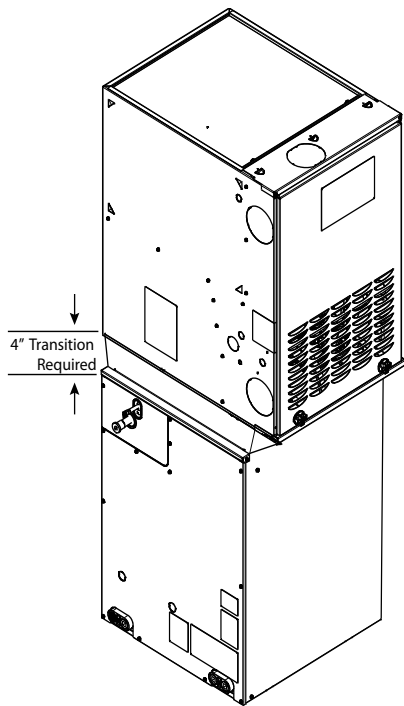

**Fig. 3 – Adapter(s) Installation When Coil is Larger than Furnace** A200228B
3. When installing wider coil on narrower furnace, it is recommended to use a transition adapter (Fig. 3).